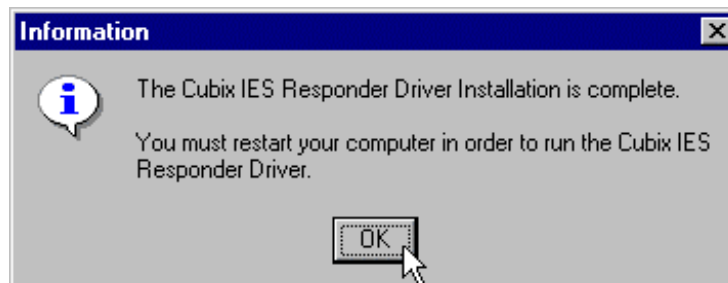

Figure 47 – IES Responder Installation Complete message box
22. Click **OK** to continue installation in the **INFORMATION** message box. See Figure 47.